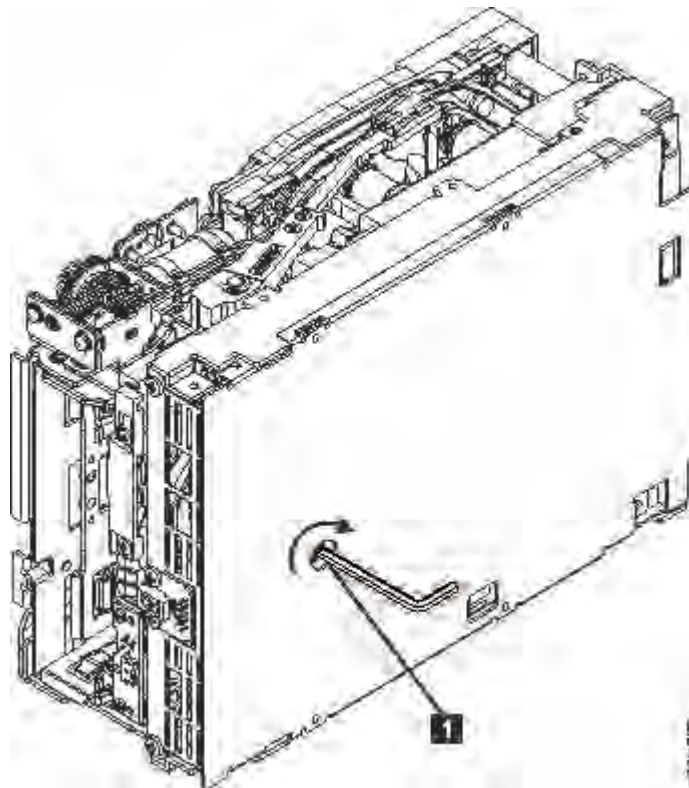

Figure 122. The hex wrench rewinds tape into cartridge
3. From the bottom of the drive, locate the access hole (1 in Figure 122 on page 253).
Note: Be sure to keep tension on the tape as the LBA is drawn into the cartridge by using a hex wrench as shown in Figure 122 on page 253.